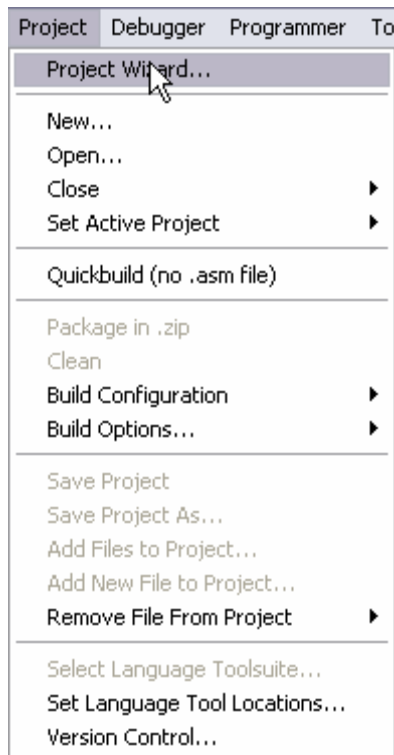

Figure 4: MPLAB New Project Window
Step 2: Click on “Project” from the main toolbar and select “Project Wizard” (see Figure 4).